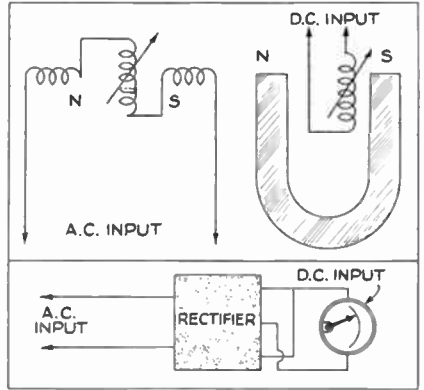

Fig. 51
(A) The D.C. meter when measuring D.C. may be represented as shown at the top in Fig. 51 where a moving coil, (indicated by the arrow), carrying the current to be measured, produces a field which reacts against the stationary field of the permanent magnet. This reaction is physical and the coil, being freely suspended, moves in proportion to the amount of current through it. However, alternating current, flowing through this winding, at the rate of, say 60 cycles, changes polarity so rapidly and attracts and repels so quickly, that the coil cannot follow it. If there were some means of changing the field of the permanent magnet, at the same rate as the change in the moving coil, there would be continuous repulsion and the needle would indicate truly.